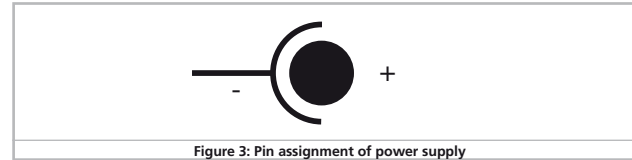

Figure 3: Pin assignment of power supply
- Use the power supply provided with the LokProgrammer. Wire the output of the power supply to the power supply terminals of the LokProgrammer as shown in figure 3.